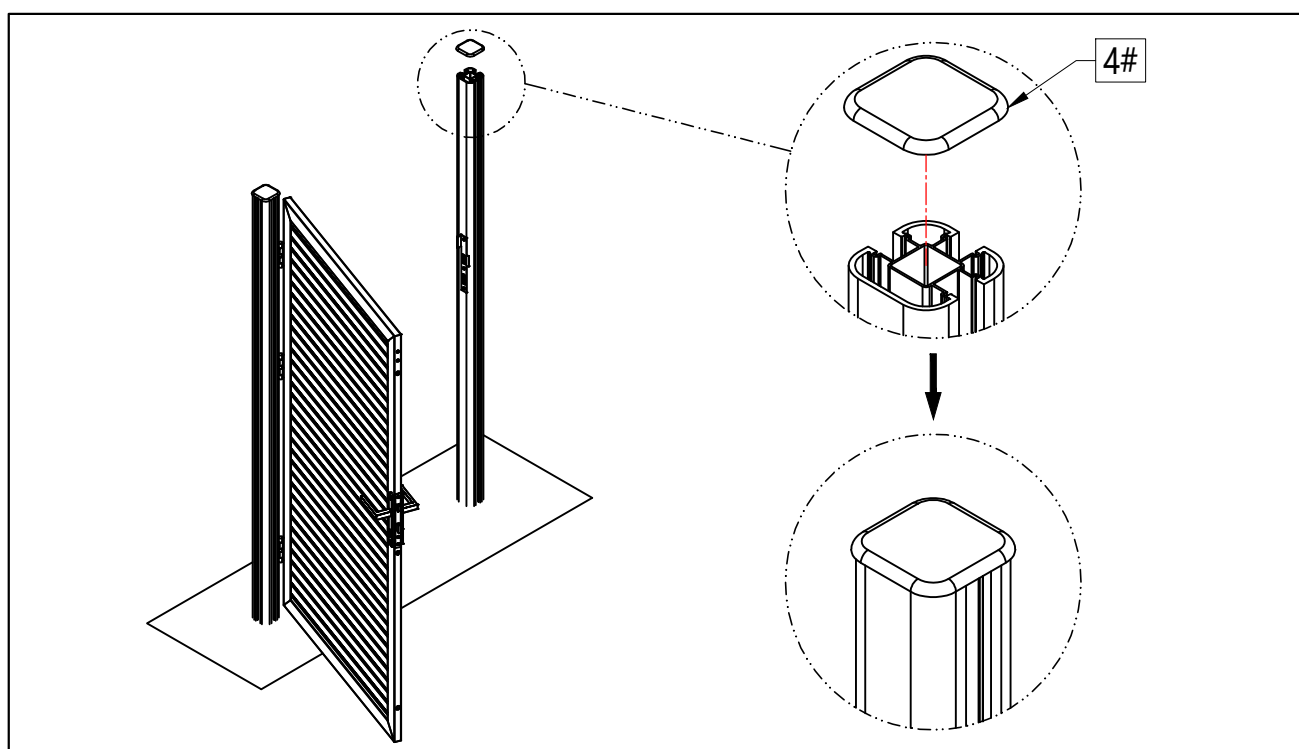

Figure 15
- 15 Attach the Post Cap (4#) on the top for each gate post to complete the installation, as shown in Figure 15.